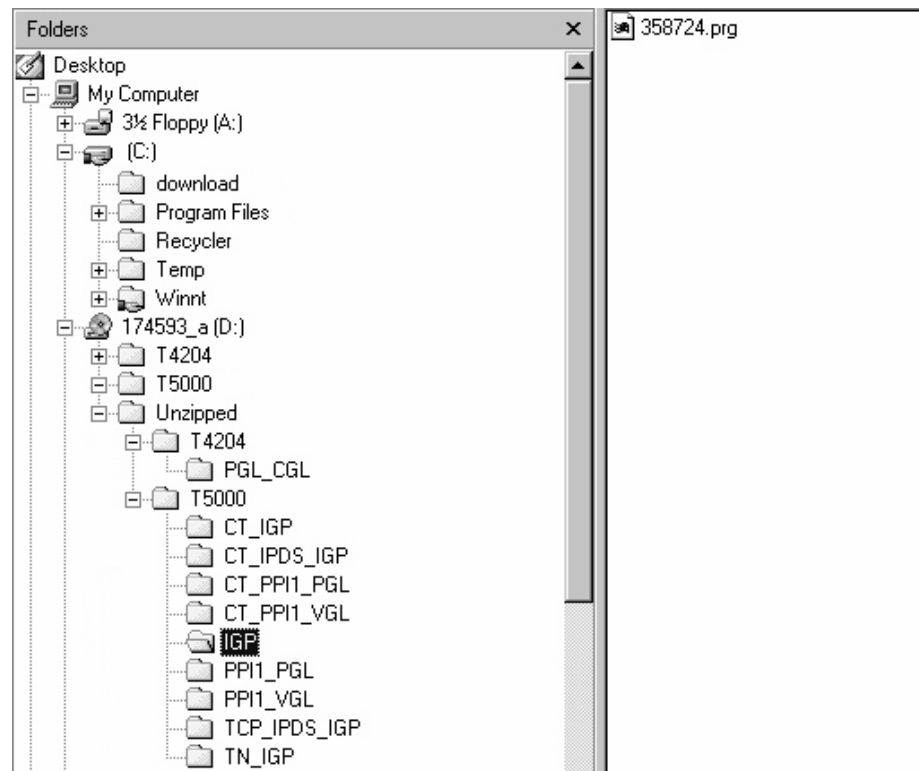

Figure 7. Navigating to the Appropriate Emulation File on the CD
8. Using Windows Explorer, navigate to the appropriate file on the CD (using the Unzipped directory) based on the printer model number and desired emulation, e.g., Unzipped ▶ T5000 ▶ IGP. (See Figure 7.)